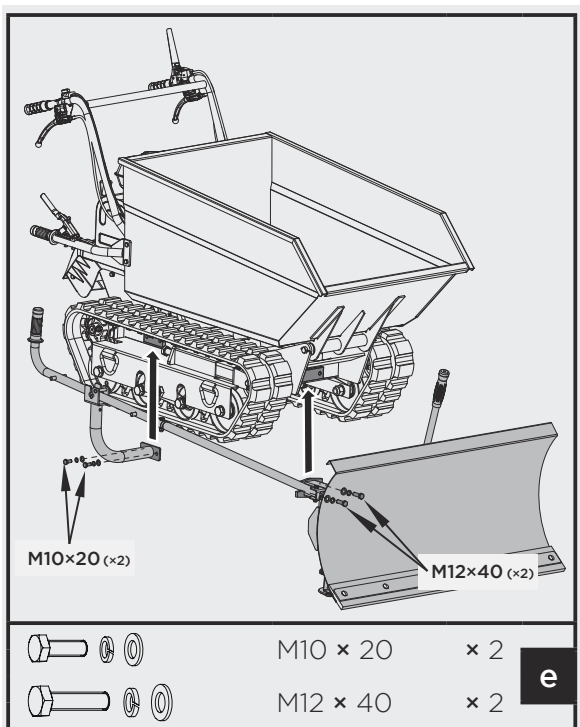

Figure 11
7. Install the already assembled plow blade to the tracked barrow as shown on figure 11.